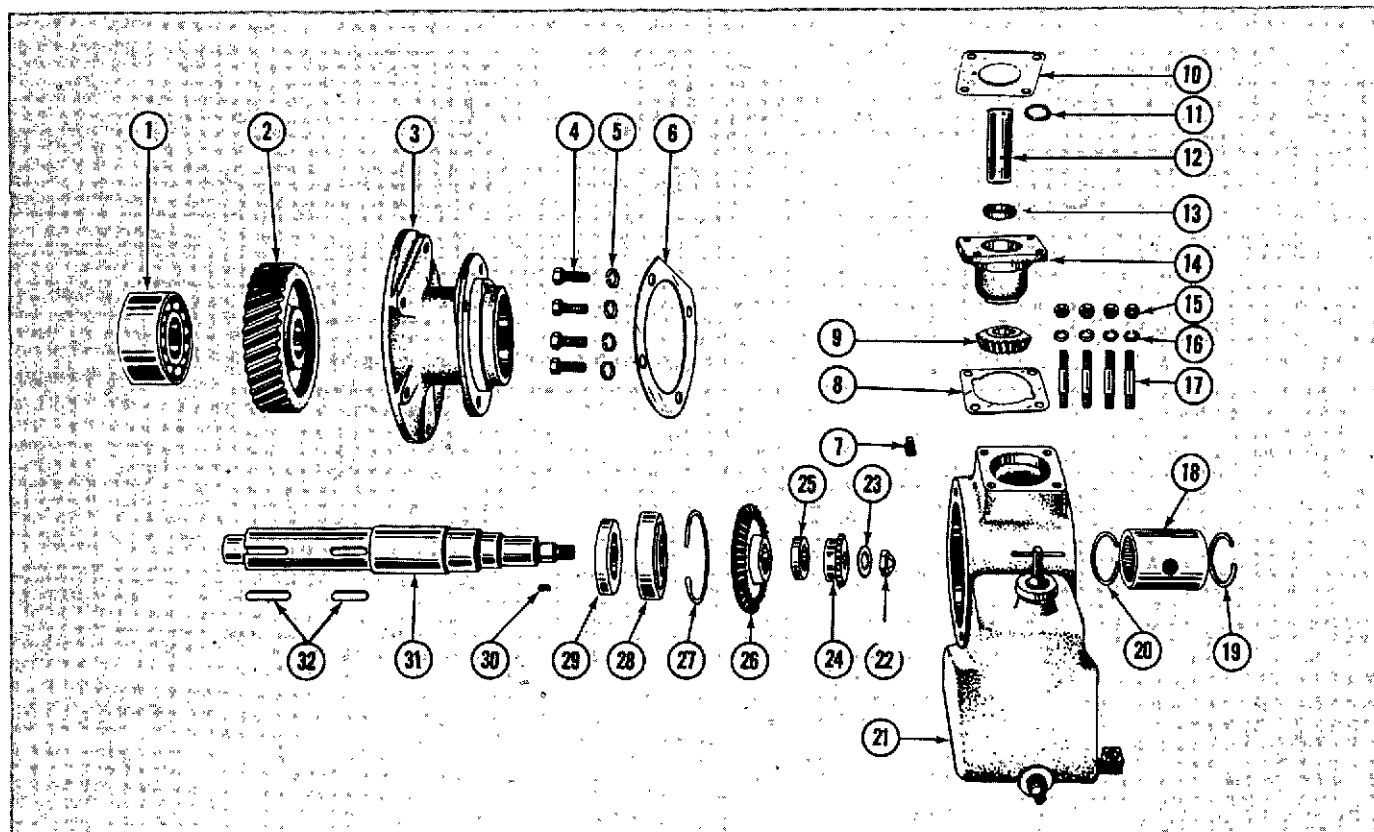

Fig. 9-1-3, N10907. Fuel pump/hydraulic governor drive
2. Remove snap ring (11, Fig. 9-1-3), ball key and collar (13).
3. Press on shaft (12) opposite gear end to separate all units from housing (14).
4. Remove capscrews (4) and lockwashers (5) and separate driver gear (2) and support assembly (3) from reservoir (21).
6. Remove shaft locknut (22) and washer (23) from drive shaft (31).
7. Use ST-528 puller to remove coupling (24), spacer (25) and governor drive gear (26).
8. Press on small end of shaft to remove shaft from support (3).
9. Press on large end of shaft to remove drive gear (2). Remove keys (32) from shaft keyway.
10. Remove snap ring (27) from support. Invert support and press out rear bearing (28) and oil seal (29). Discard oil seal.
1. Lubricate outside of oil seal (29, Fig. 9-1-3) and press into support from large end. Open end of seal must be down. Check to see that oil holes in housing are open.
2. Invert support. Coat outside of rear bearing with lubricant and press bearing (28) into support to shoulder. Insert snap ring (27), flat side down.
3. Lubricate large end of shaft. Place key (32) in shaft (31) and press shaft into gear (2) against shoulder. Place flat side, not beveled side, of gear hub against shoulder.
4. Press shaft into inner race of front bearing (1) until bearing is against gear hub.